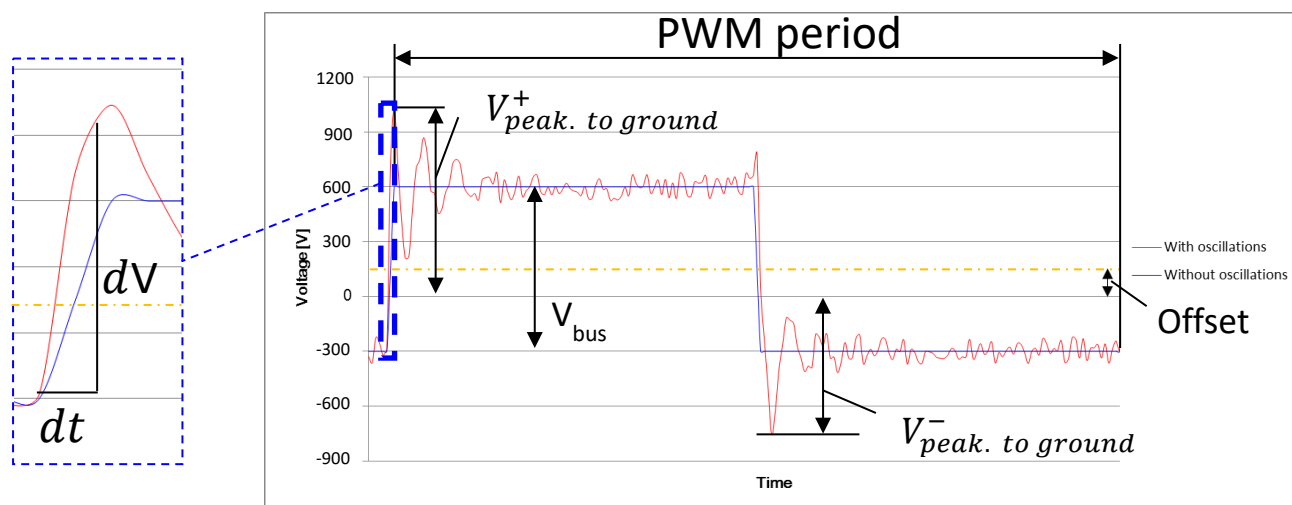

Figure 3.5.1 Phase to ground voltage oscillation schematic (600/750  $V_{DC}$  controller)
- 600 or 750  $V_{DC}$  controllers: 1050  $V_p$  maximum (phase to ground at the PWM frequency) and a voltage gradient:  $11kV/\mu s$ , as shown in Figure 3.5.1, and Table 3.5.1.